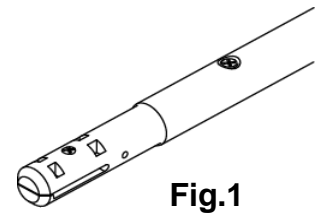

Fig.1
1. The rod is supplied as two 1.25m lengths which can be joined together using the straight joint provided. Firstly lay the two rods down on a flat level surface. One end of each of the rods has a hole pierced into it approximately 50mm from the end. Insert the straight joint into one of these ends so that the grub screw is central with the hole in the rod. Using the larger of the two hex head keys, provided, rotate the grub screw clockwise until the straight joint is clamped tightly in position (see Fig. 1).